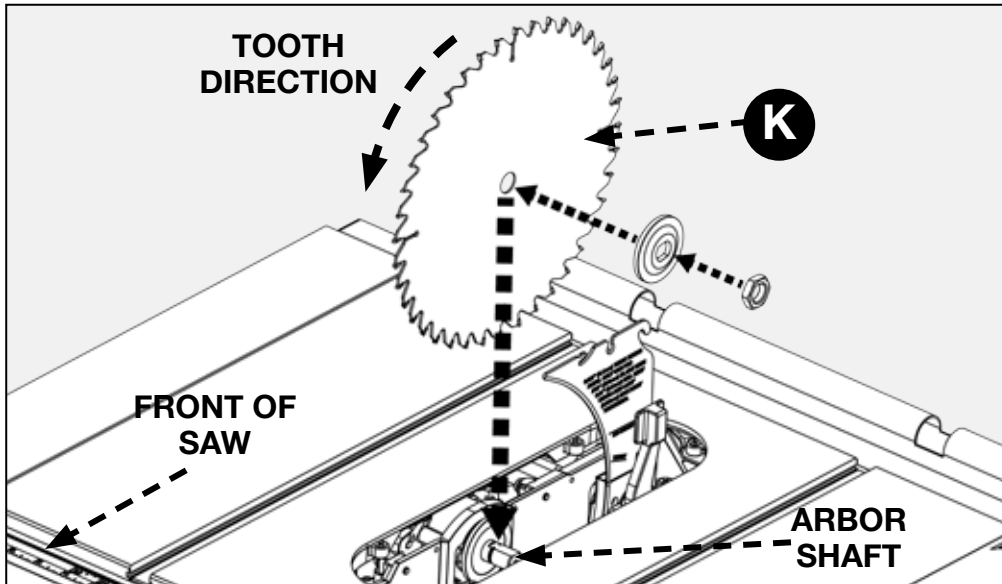

FIGURE 19
Place blade (K) on the arbor shaft with the teeth on the blade pointing toward the front of the saw. Place flanged washer on the shaft with the large side of the washer against the blade, then secure blade assembly with nut. (Figure. 19)